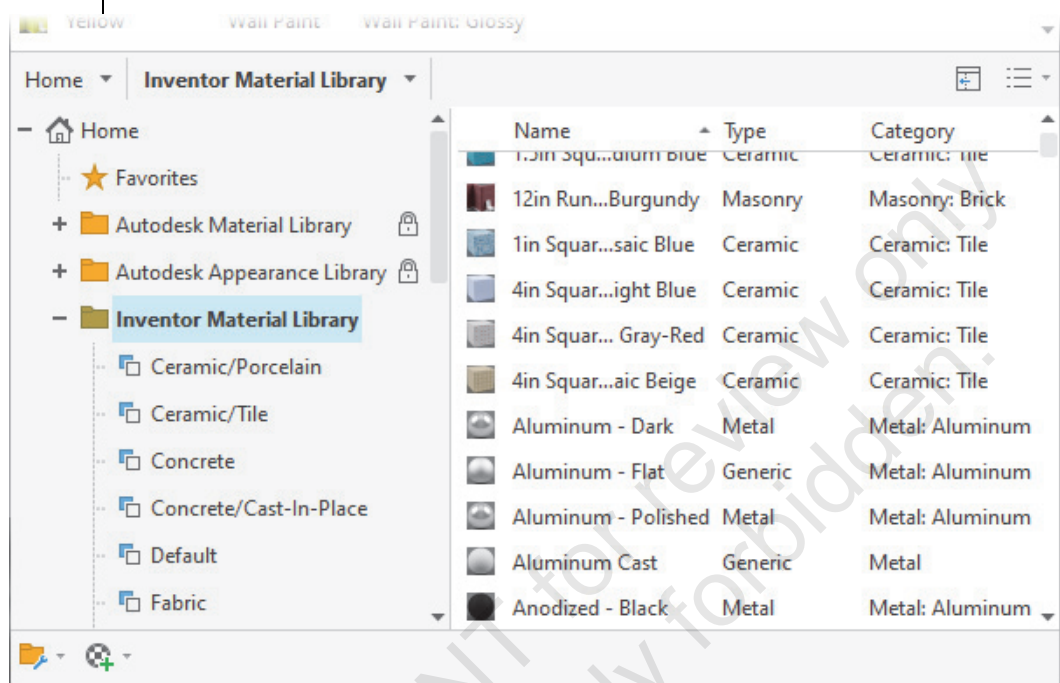

Figure 1–30
3. Further expand the **Inventor Material Library** folder, as shown in Figure 1–30.